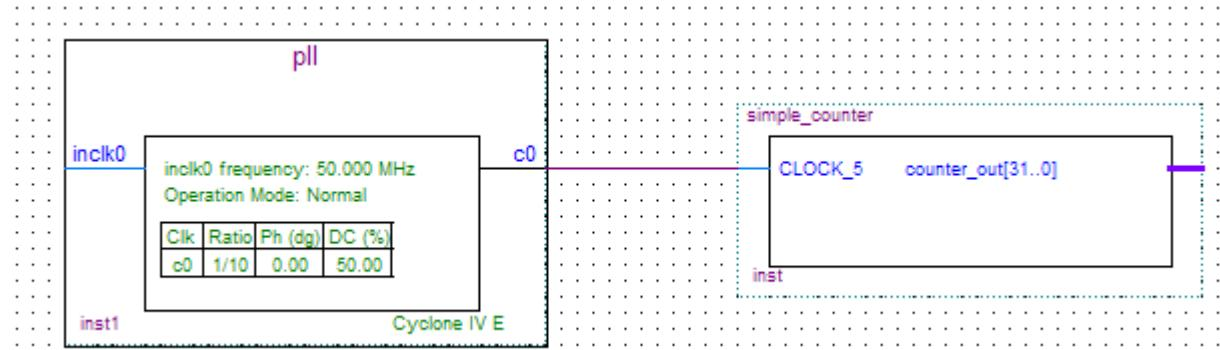

Figure 6-27 Draw a Bus Line connect pll c0 port to simple\_counter CLOCK\_5 port
13. Click and drag a bus line from the c0 output to the simple\_counter clock input. This action ties the pll output to the simple\_counter input (see Figure 6-27).